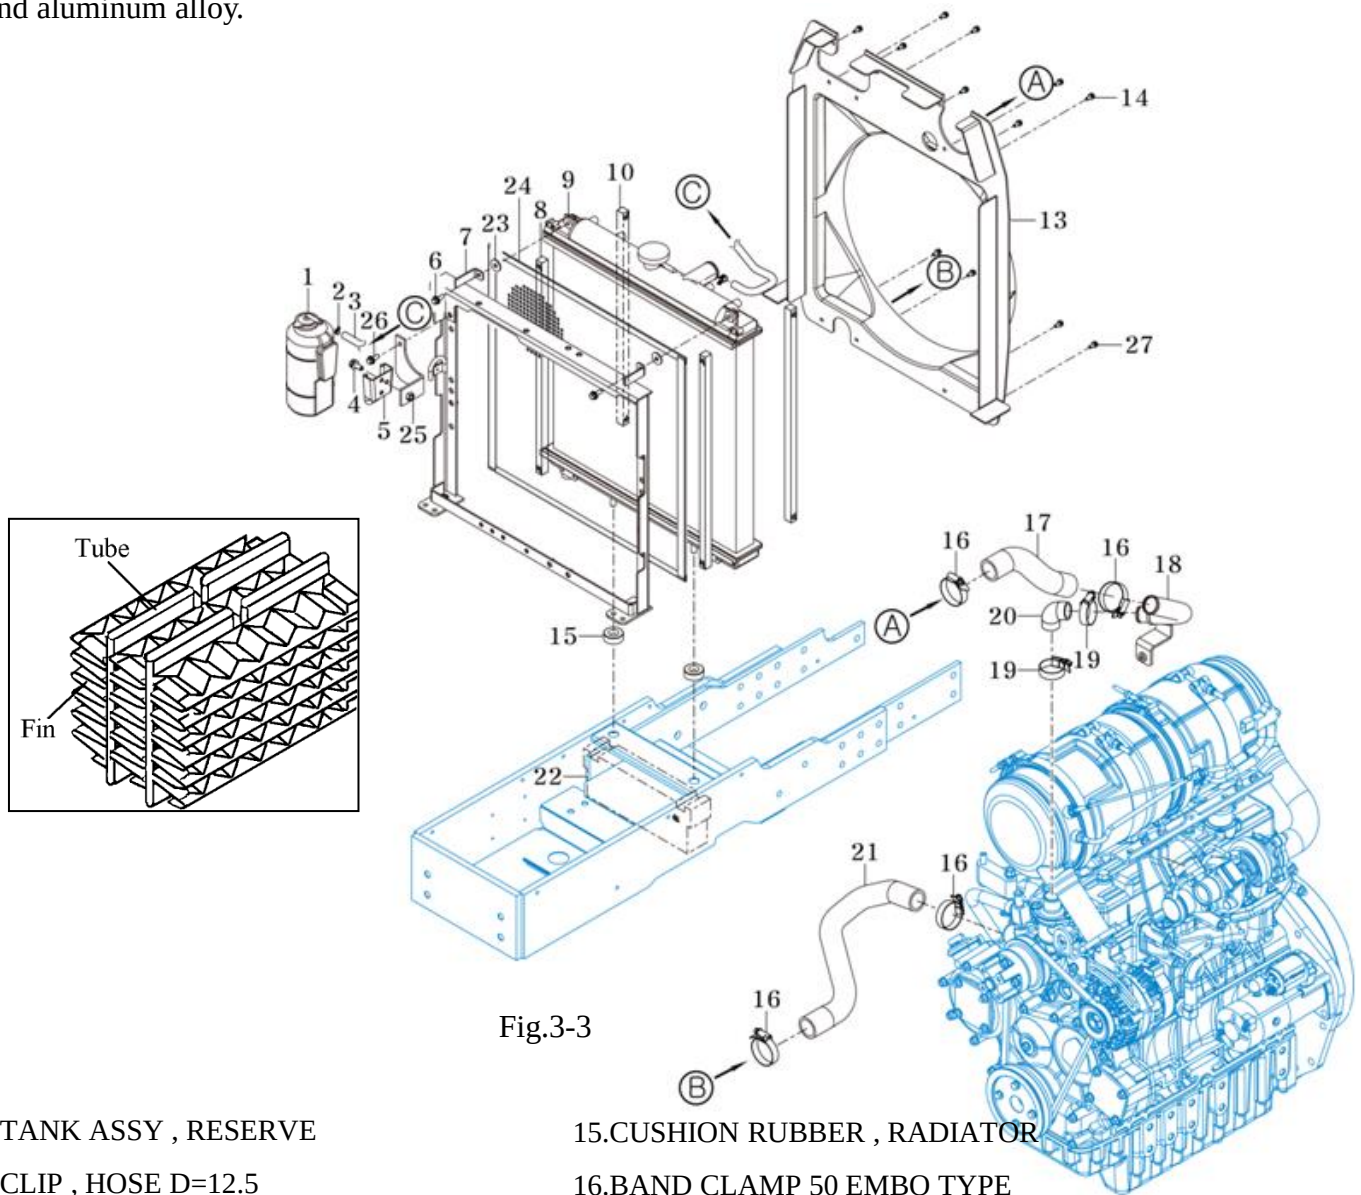

Fig.3-3
When reassembling the radiator, apply the adhesive on the insulator(15) in Fig. 3-3 after the wiring harness is installed.